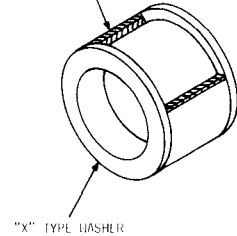

Fig. 19—J-X and K-X Sealing Washer for Sealing Vacant Opening in Splice Case
3.27 An unused cavity in the splice case can be filled with a plug of B sealing tape and a solid sealing washer of the proper diameter placed at each end of the plug (Fig. 18) or with a J-X or K-X sealing washer as shown in Fig. 19.